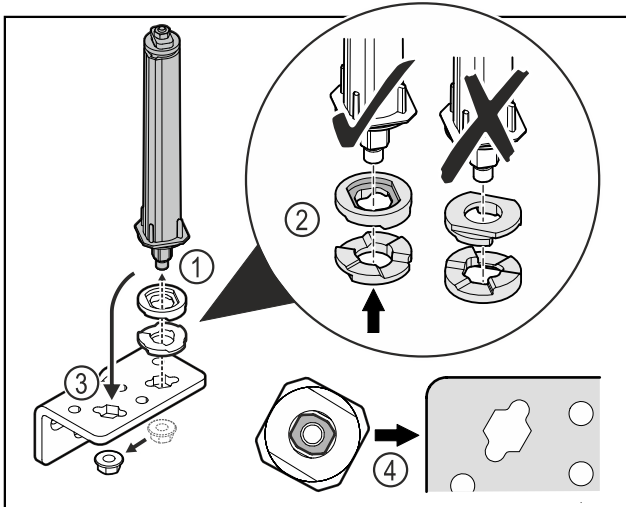

Fig. 29
- ▶ Loosen the nut and remove the door closing system Fig. 29 (1).
- ▶ Observe the correct alignment of the height adjustment washers Fig. 29 (2).
- ▶ Put the door closing system in the hinge fix in place with the nut Fig. 29 (3).
- ▶ Observe the correct alignment of the door closing system when doing so Fig. 29 (4).